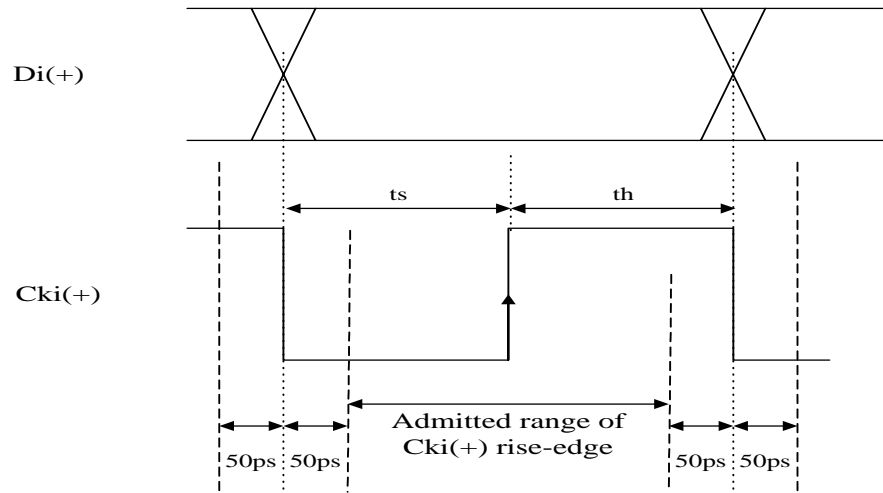

Figure 1.1 Data/Clock Timing Diagram
2. The data and clock timing diagram is Figure 1.1